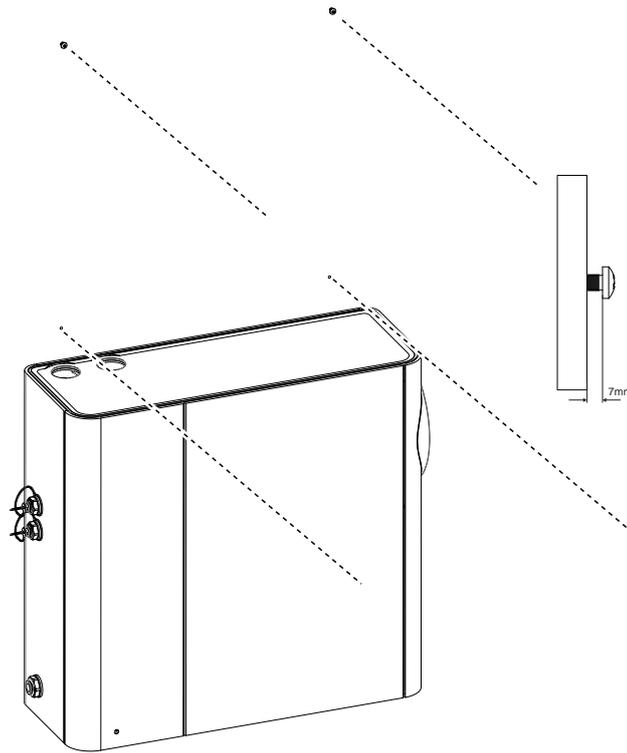

Figure A-32: Insert mounting screws
4. Remove the Local Relay StaX and mounting bracket spacer from above the detector. Insert two M4 button head screws in the upper two pilot holes and tighten until the screw head is protruding 7 mm from the wall (Figure A-32).